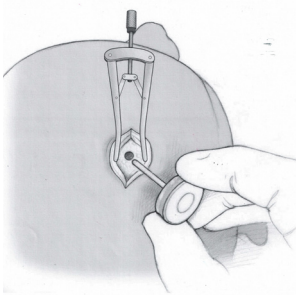
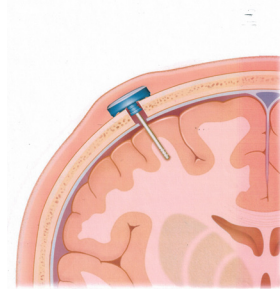

Figure 4
Figure 5
- Place the tip of the AURA™ ICP Sensor in the parenchyma through the puncture in the dura (Figure 4) until the AURA™ ICP Sensor body is flush with the outer table of the skull (Figure 5).